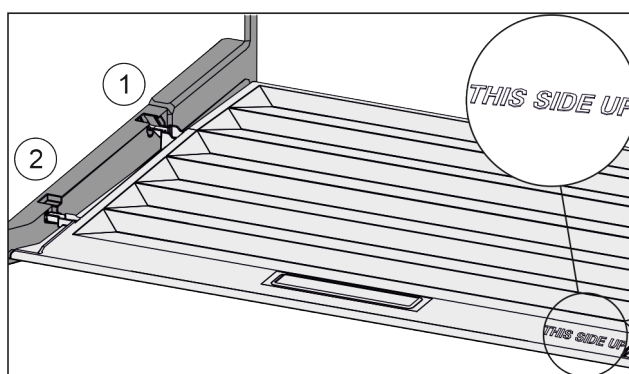

Fig. 125
- Insert the lip of the cover over the opening of the rear bracket *Fig. 125 (1)* and click into place *Fig. 125 (2)*.